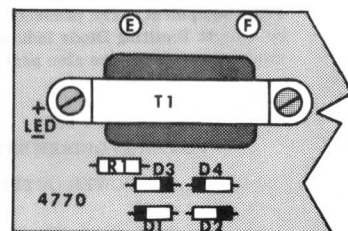

figure 1
Solder resistor R1 in place according to the parts placement designation printed on the circuit board and assembly drawing figure 1. Note that the fixed resistor is non-polarized and may be mounted with either of its two leads in either of the two holes provided. Cinch the resistor in place prior to soldering by putting its leads through the holes and pushing it firmly against the board; On the conductor side of the circuit board bend the leads outward to about a 45° angle. Clip off each lead flush with the solder joint as the joint is made.
- ( ) With the circuit board oriented as in figure 1, cut the left black primary lead to a length of 2 inches and the right primary lead to a length of 3 3/4 inches. Carefully strip 1/4 inch of insulation from each of these leads.